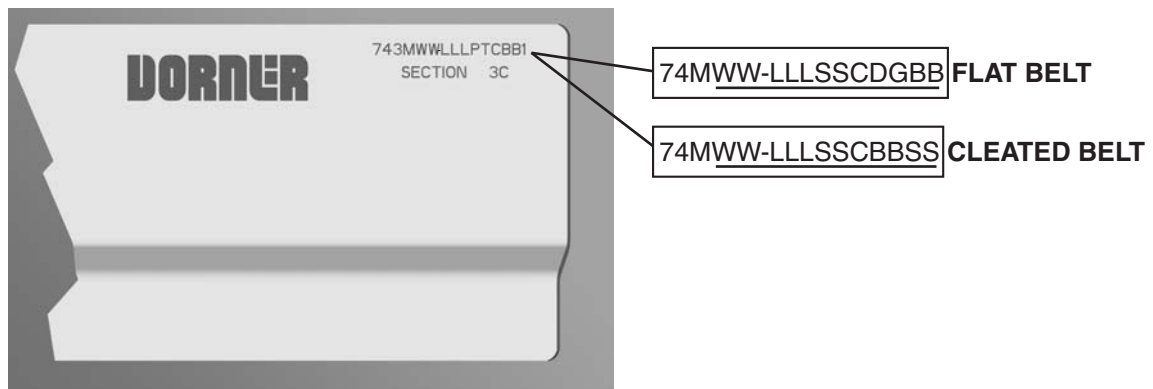

Figure 75
Refer to the model number on the conveyor frame (**Figure 75**). From the model number, determine conveyor width (WW), length (LLL), drive stand location (S), idler stand location (S), cleaning options (C), drive/pulley type (D), profile (G) and belt material (BB).
Refer to the model number on the conveyor frame (**Figure 75**). From the model number, determine conveyor width (WW), length (LLL), drive stand location (S), idler stand location (S), cleaning options (C), cleated belt material (BB) and cleat spacing (SS).